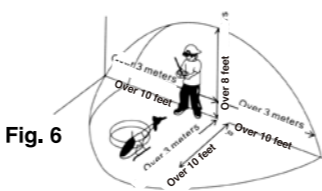

Fig. 6
- Turn on the power switch to the helicopter, set it on the ground, and step back at least 10 feet (Fig. 6).